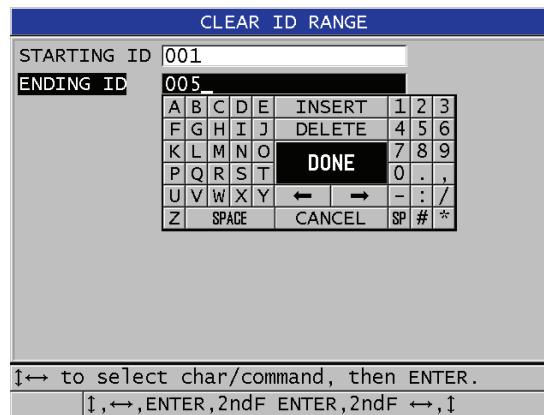

Figure 11-21 Deleting the data of an ID range in the active file
3. In the **CLEAR ID RANGE**, screen (see Figure 11-21 on page 182):